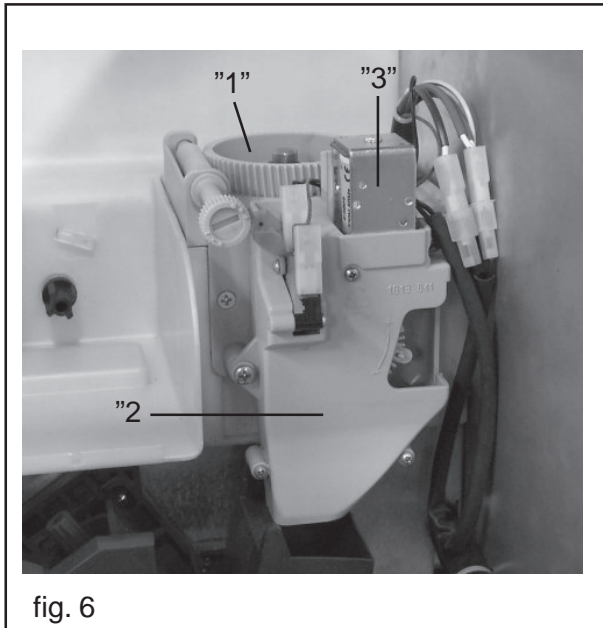

fig. 6
- the grinder (ref.1 fig.6) is activated until the quantity of coffee set on the dosing unit (ref.2 fig.6) is reached
- the activation of the dosing unit solenoid (ref. '3' fig. 6) causes the door to open and, as a consequence, the coffee is dispensed into the cup.